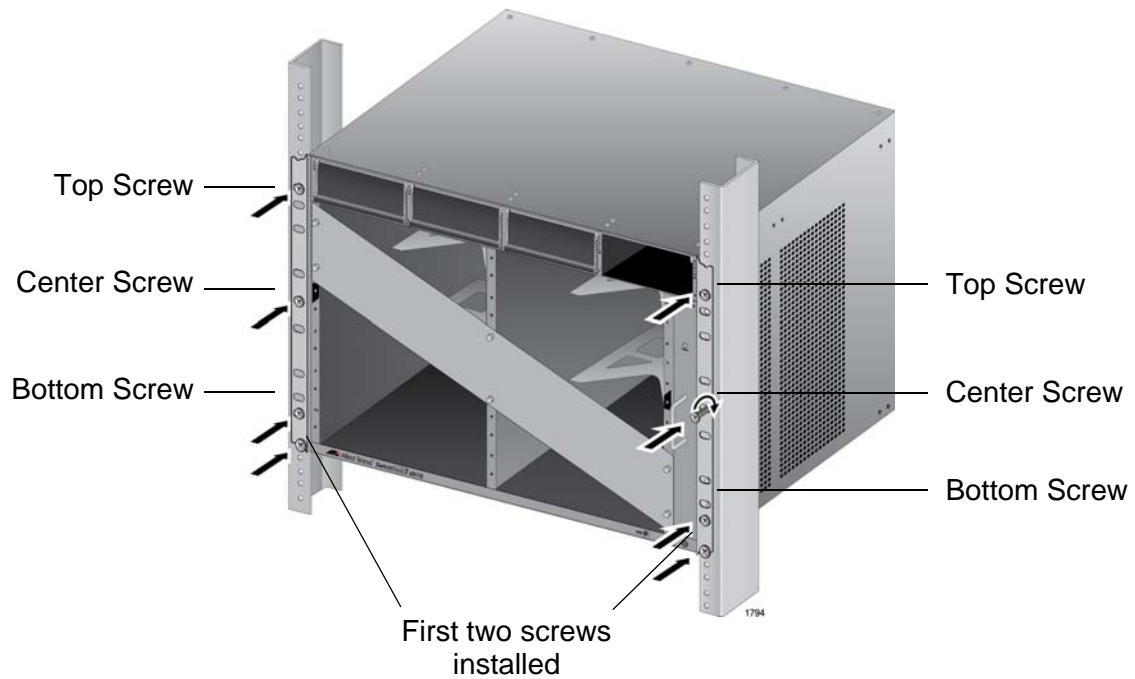

Figure 40. Installing the Rack Mount Screws
4. Install six rack mount screws (not provided) to secure the chassis to the equipment rack, as shown in Figure 40 on page 100.